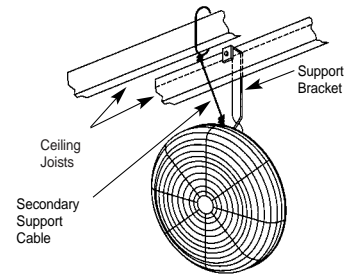

Figure 6 - Suspension Bracket
4. Wrap the other end of the cable around a secure building joist, beam, truss, or other support near the fan (Refer to Figures 6 and 7). Take up all excess slack in the cable. If the fan is an oscillating model, leave enough slack to allow free movement through range of motion.